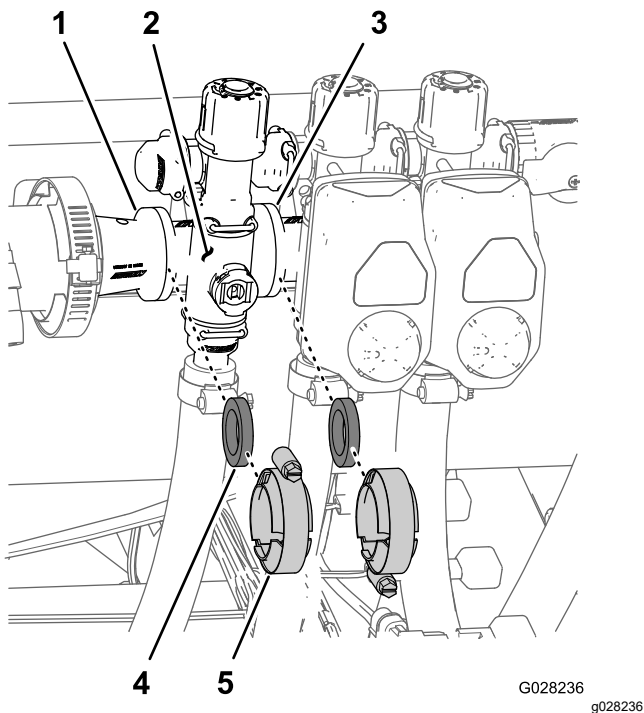

**Figure 72**
3. Remove the flanged-head bolt and flanged locknut that secures the master-section valve to the valve mount and remove the valve manifold from the machine (Figure 72).